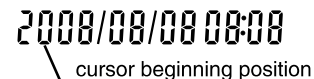

Figure 2–6: Adjust o'clock
- (1) Select **6.7.6** (RTC) in the main menu.
- (2) Input the date and time, see figure 2–6.